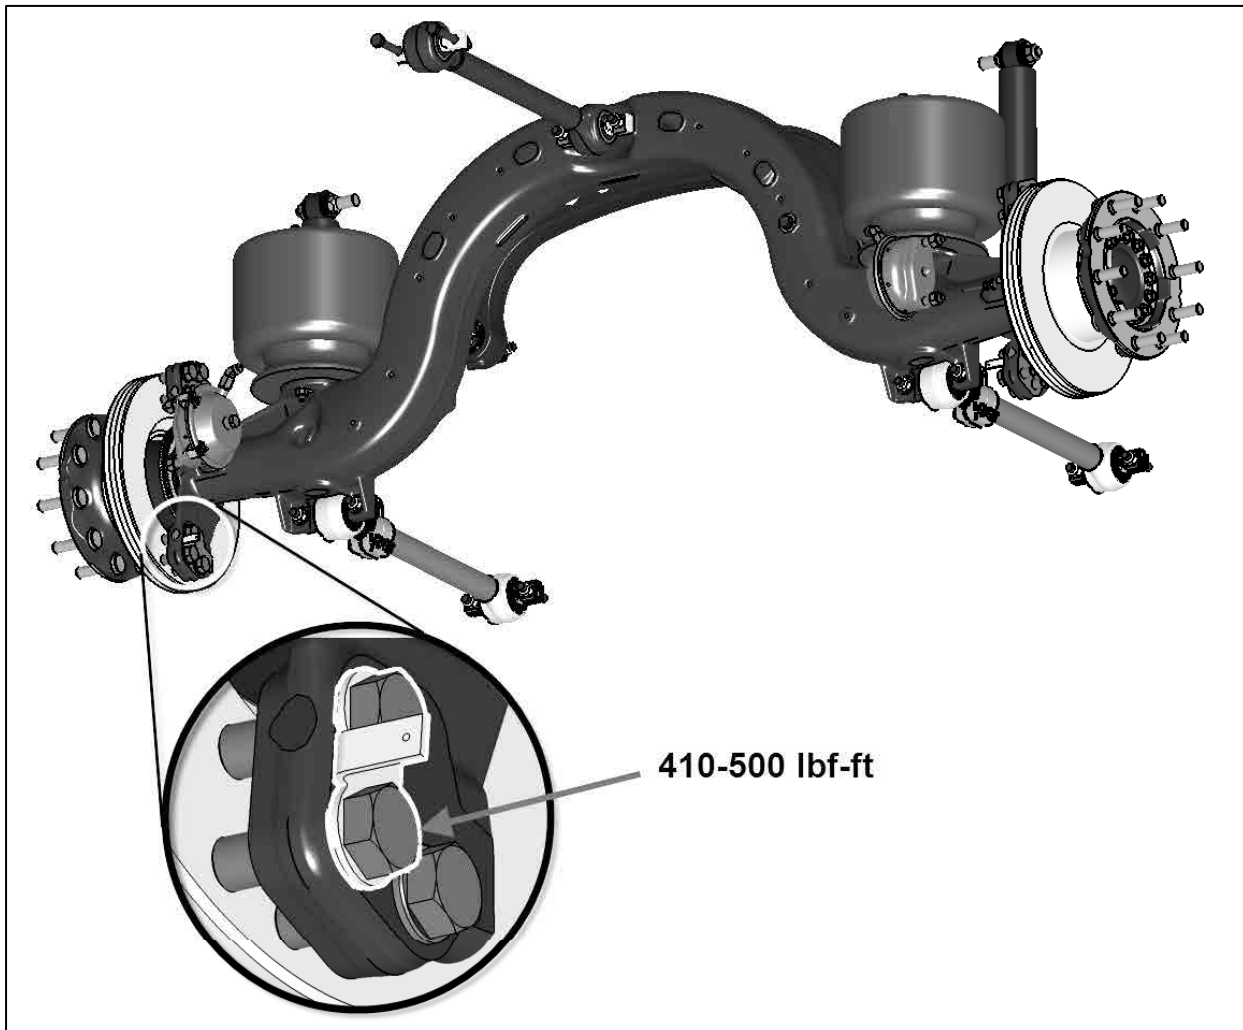

Figure 1
2. On the tag axle, on the inside of the wheel, locate the visual brake wear indicator (Fig 1).